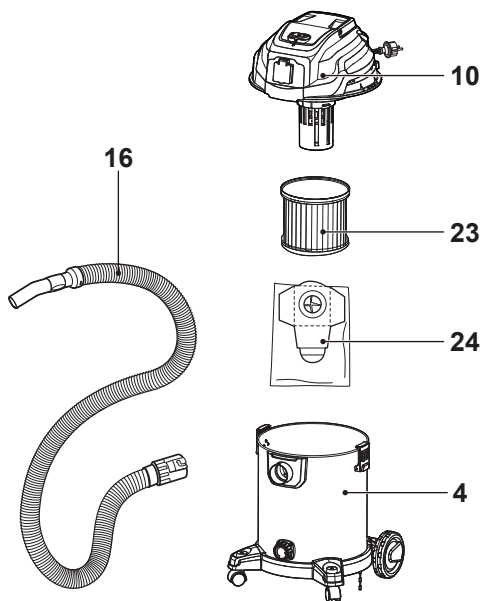

Fig. 5, Dry vacuuming and blowing
- with cartridge filter (23) and dust bag (24) assembled for dry vacuuming and blowing (Fig. 5)